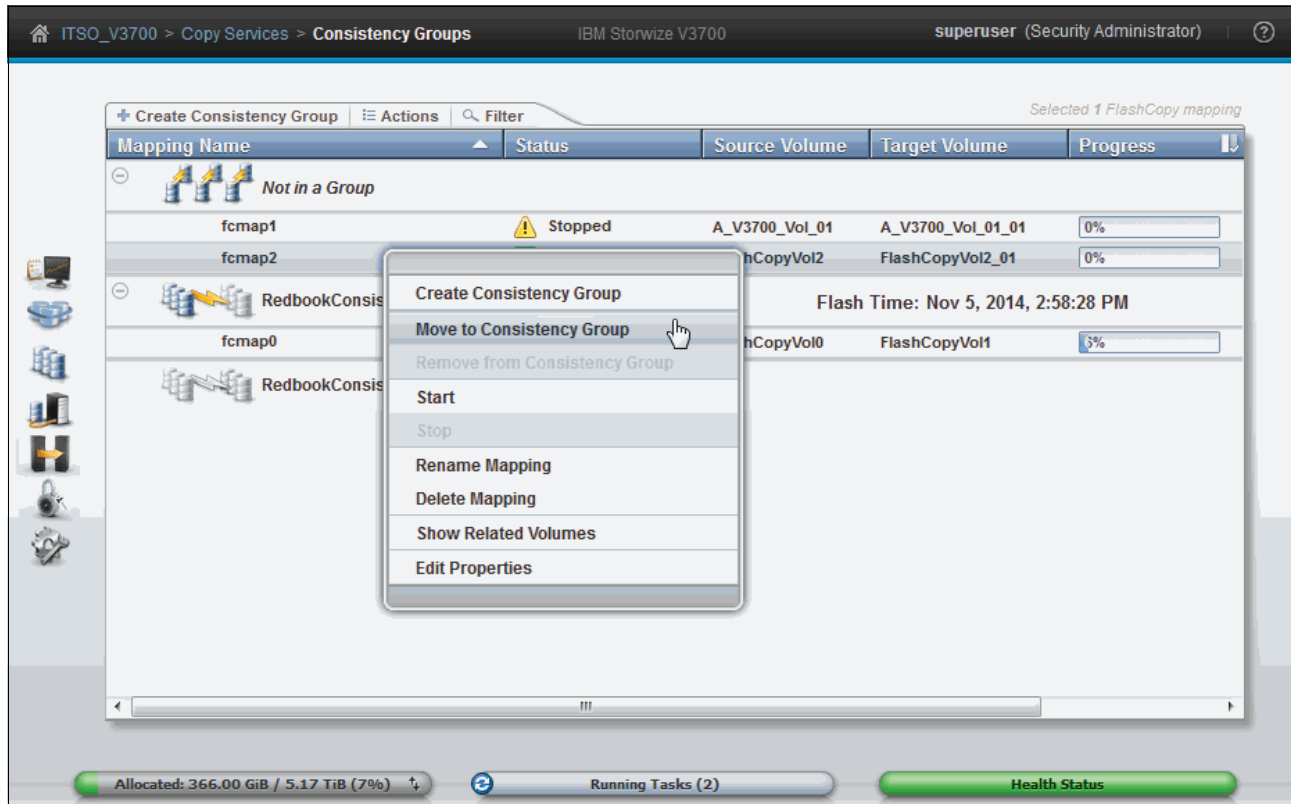

Figure 10-57 Select the FlashCopy mappings to add to a consistency group
2. You can add FlashCopy mappings to a consistency group by selecting them and clicking the **Move to Consistency Group** option from the **Actions** menu, as shown in Figure 10-57.